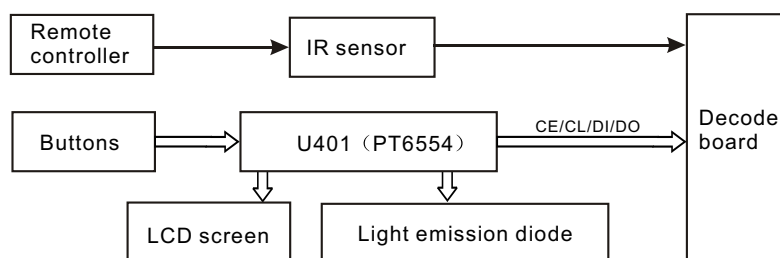

Figure 8.1.1.1 Panel control circuit block diagram
1. Panel circuit block diagram is shown in the figure 8.1.1.1;